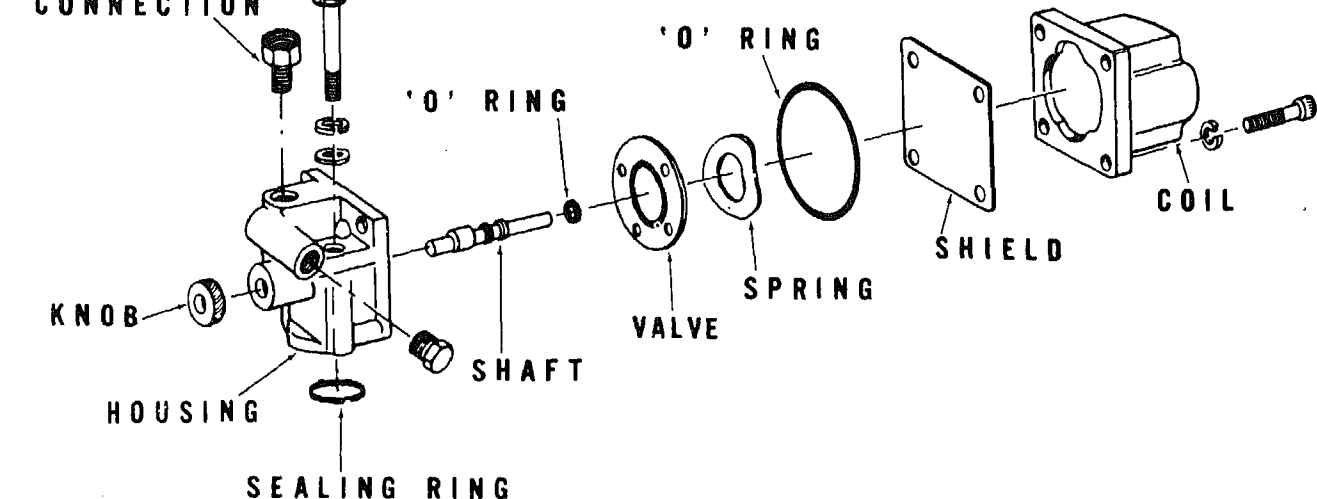

Fig. 505-2 Electric shut-down valve--exploded view
4. If necessary, remove manual override knob, and unscrew override shaft from coil end. Discard shaft "O" ring. See Fig. 505-2.